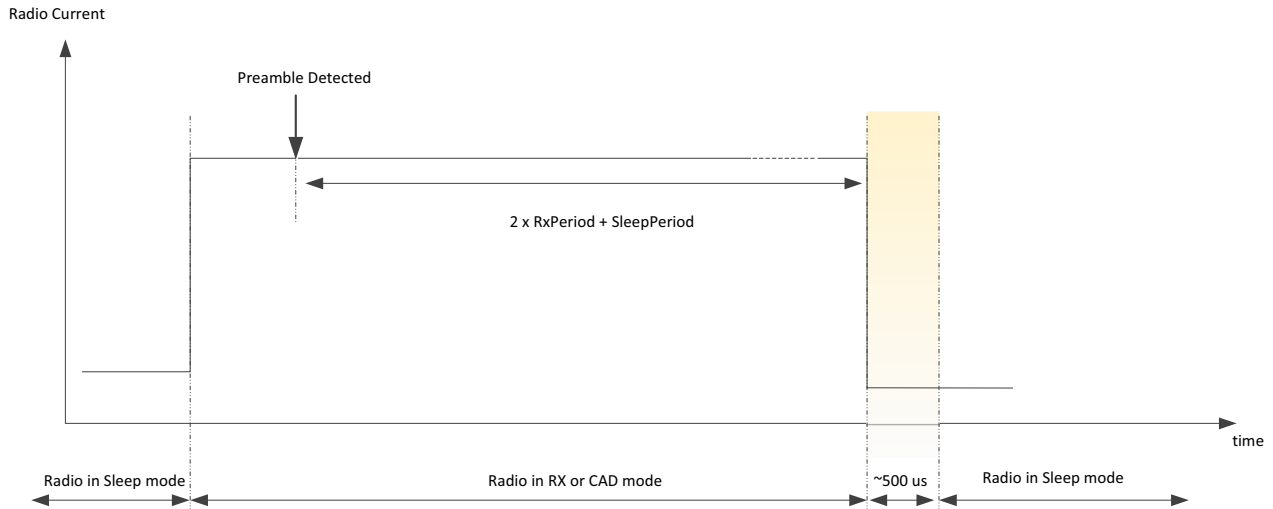

Figure 7-3: RX Duty Cycle Upon Preamble Detection
- Upon preamble detection, the timeout is stopped and restarted with the value $2 * RxPeriod + SleepPeriod$, as shown in Figure 7-3: RX Duty Cycle Upon Preamble Detection.